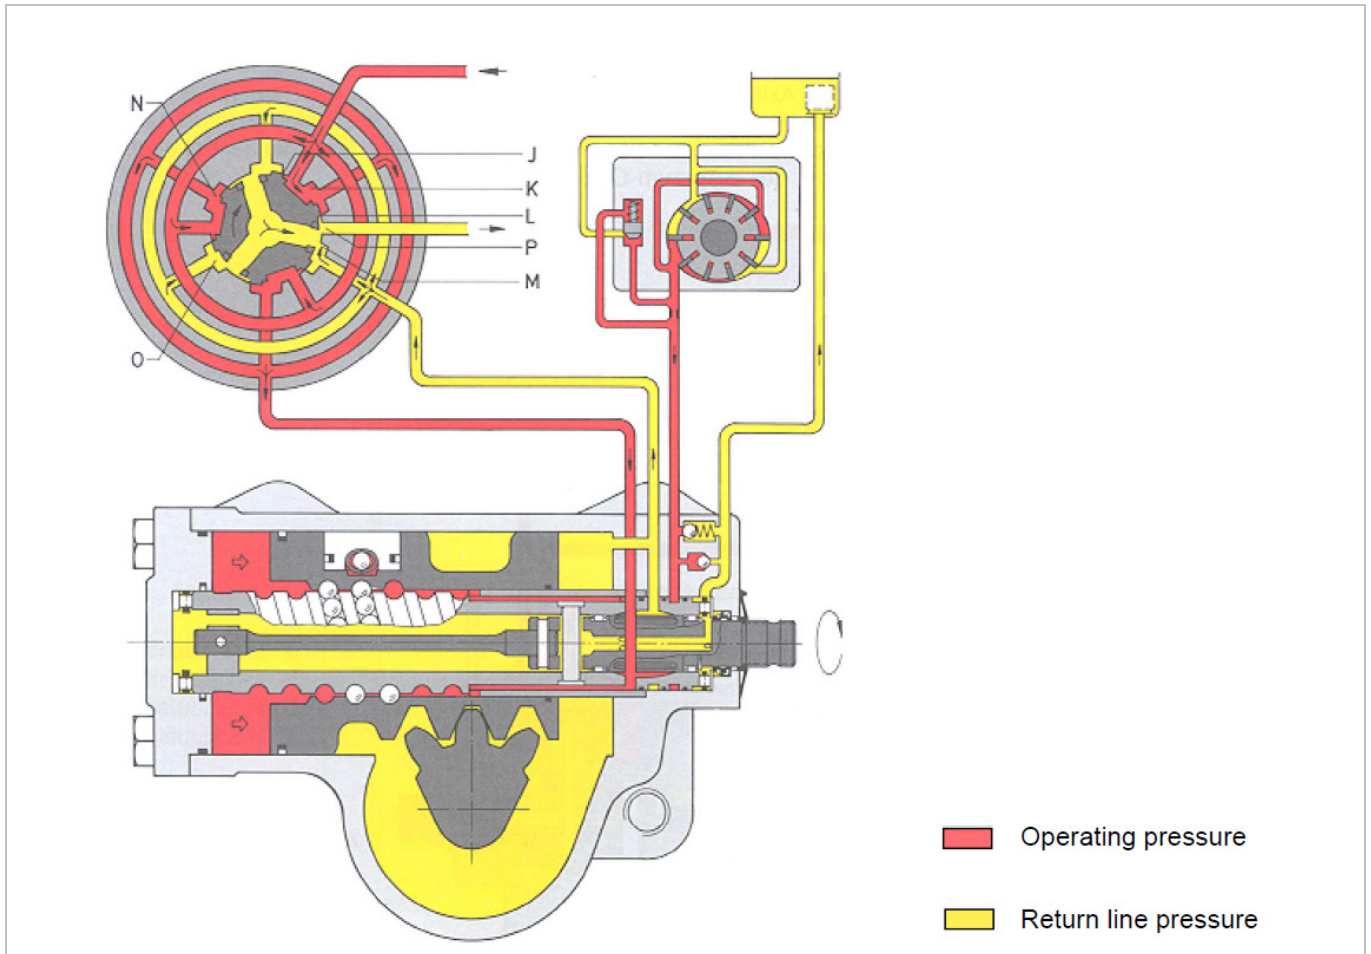

Fig. 2: Valve rotor in operating position, Steering wheel turned clockwise, piston with right-handed thread
When the steering wheel is turned to the right, the piston will shift to the right (Fig. 2). A pressure will now build up in the left-hand cylinder chamber which is a function of the steering effort required. To achieve this, the control grooves of the valve rotor are displaced clockwise and the inlet slots (K) are opened wider to admit the oil, while the inlet slots (J) are closed to the same extent and thus obstruct the feeding of oil to the axial grooves (O) of the valve sleeve. The oil will now flow through the inlet slots (K) to the axial grooves (N) of the valve sleeve and, from there, will pass through the ball screw thread and flow to the left-hand cylinder chamber. The closed inlet slots (J) prevent the oil from flowing off to the tank and, thus, cause a pressure to build up.